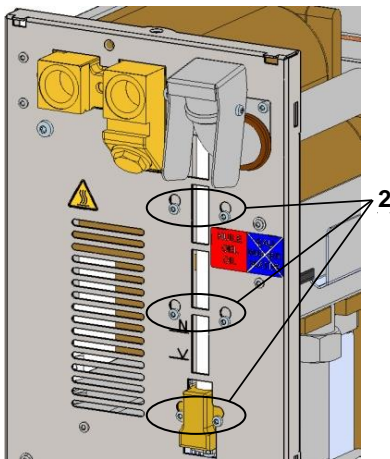

Fig. 1: Removing level indicator
- Remove 6x screws (Label 2 → Fig. 1).